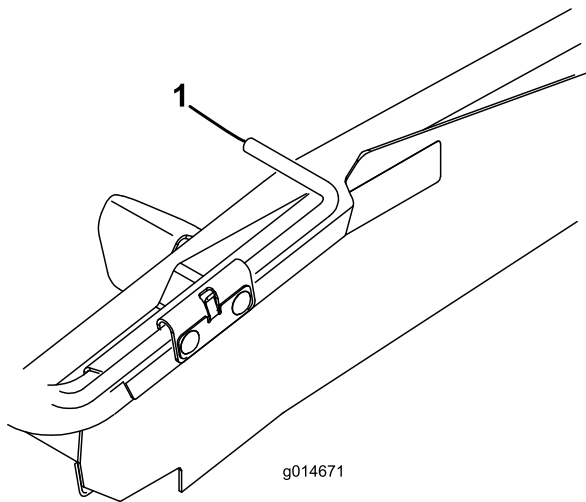
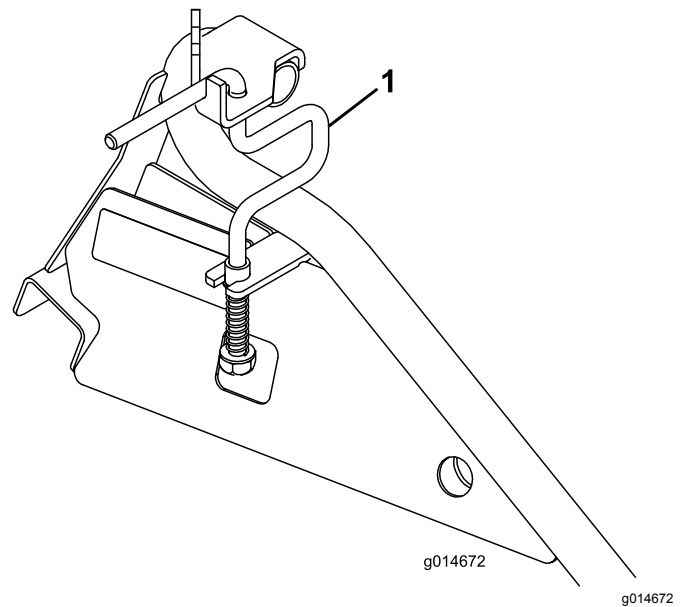

Figure 13
Figure 14
2. On flat ramps, pivot the wheel rods upward (Figure 13) and on rail ramps, rotate the wheel rods parallel (open) to the ramp (Figure 14).
- On flat ramps, rotate the wheel rods downward over the greens mower transport wheels (Figure 13).
- On rail ramps, lift the wheel rod and rotate it behind the greens mower transport wheels (Figure 14).